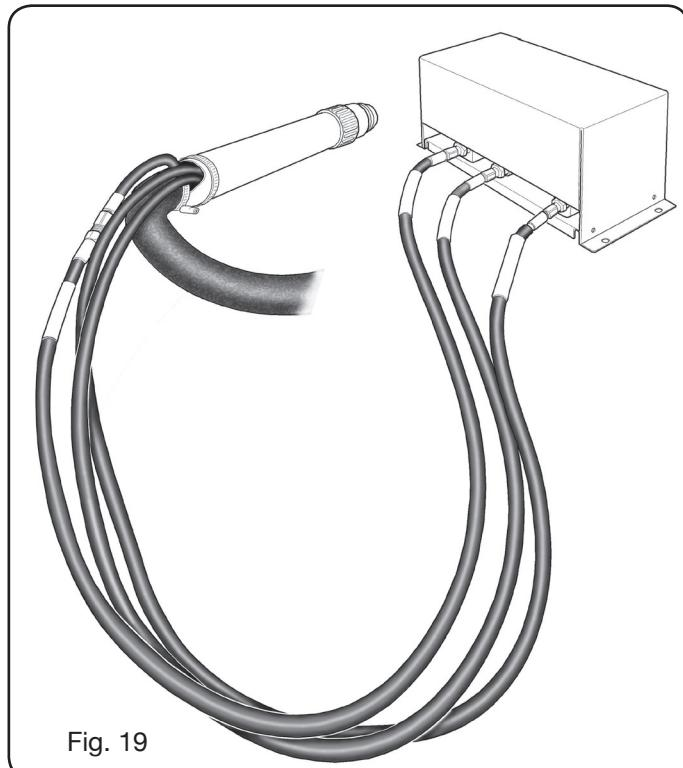

Fig. 19
- Connect the pipe bundle exiting from the torch to the PVC valve console (art.469) tightening these to the respective gas outlets and following the order indicated by their markings (see Fig. 19).